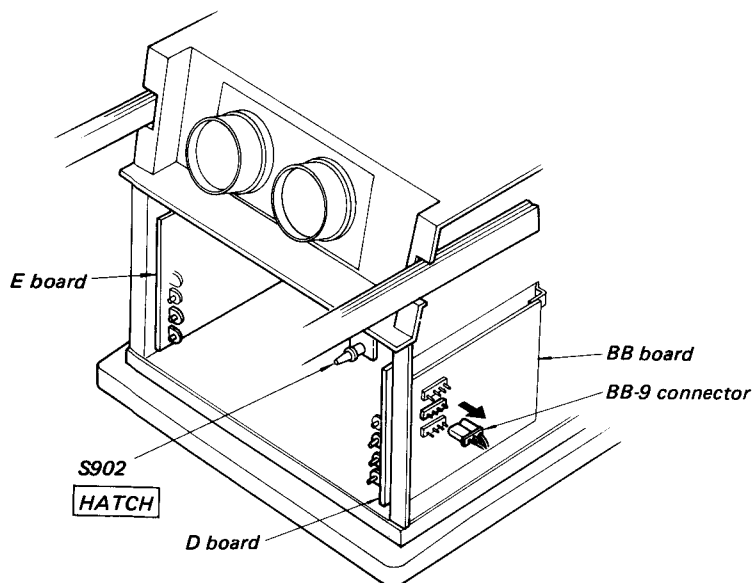

Fig. 3-10
- 6) Set the HATCH switch to NORMAL. (Fig. 3-10)